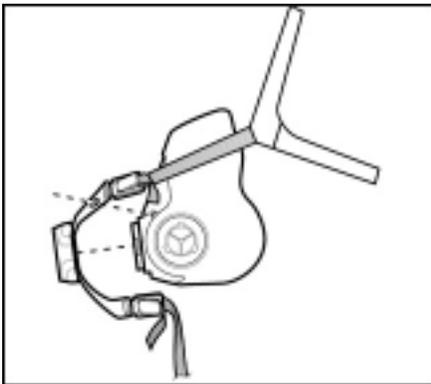

Fig. 19
1. Remove valve cover assembly from facepiece. (Fig.19)